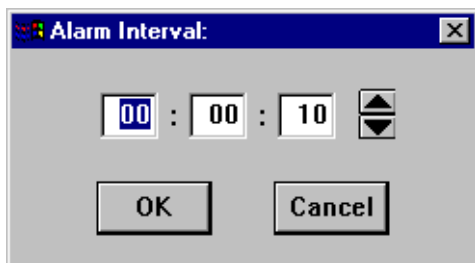

Figure 5-9. The Alarm Interval Window
1. Click on the clock symbol  next to the **within:** text box in any one of the alarm limits windows; the interval you set applies to all configured alarms at all levels. The Alarm Interval window, Figure 5-9, will appear.